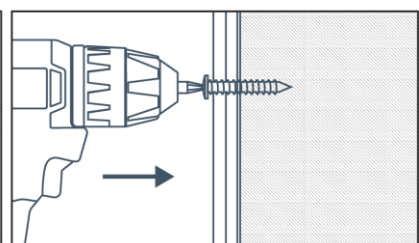

Fig. 3
- Screws must be installed straight and level to allow for movement (Fig 3).